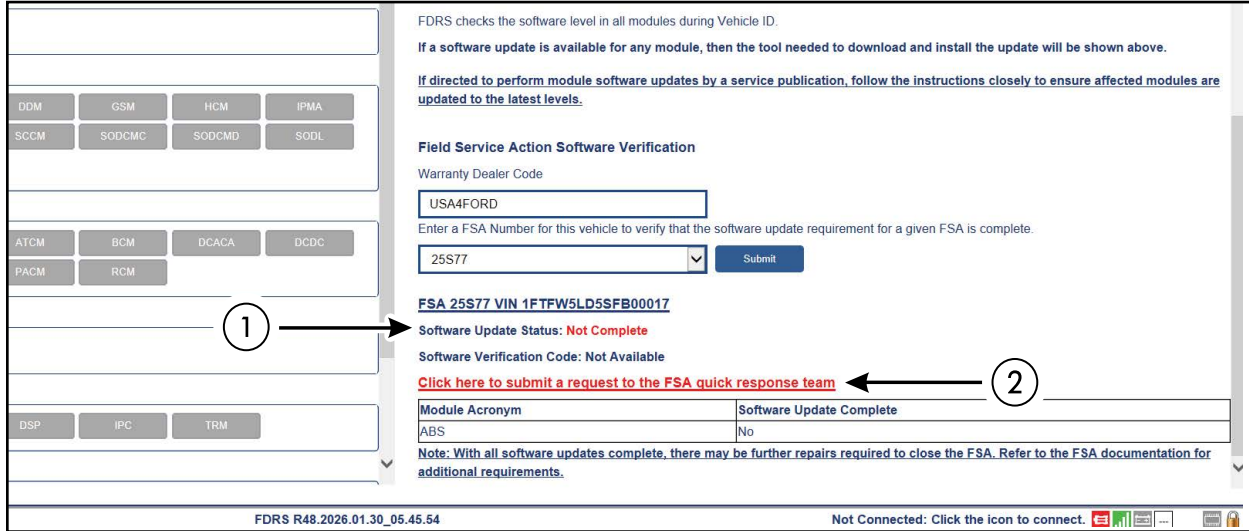

FIGURE 9
25. If the FDRS Field Service Action Software Verification Status displays "**An error occurred. Unable to retrieve FSA information**", please reattempt to generate an SVC code. The error can be caused by a connectivity or server issue where the status of the FSA cannot be verified. This is typically resolved upon reattempting to generate an SVC code. See Figure 9.